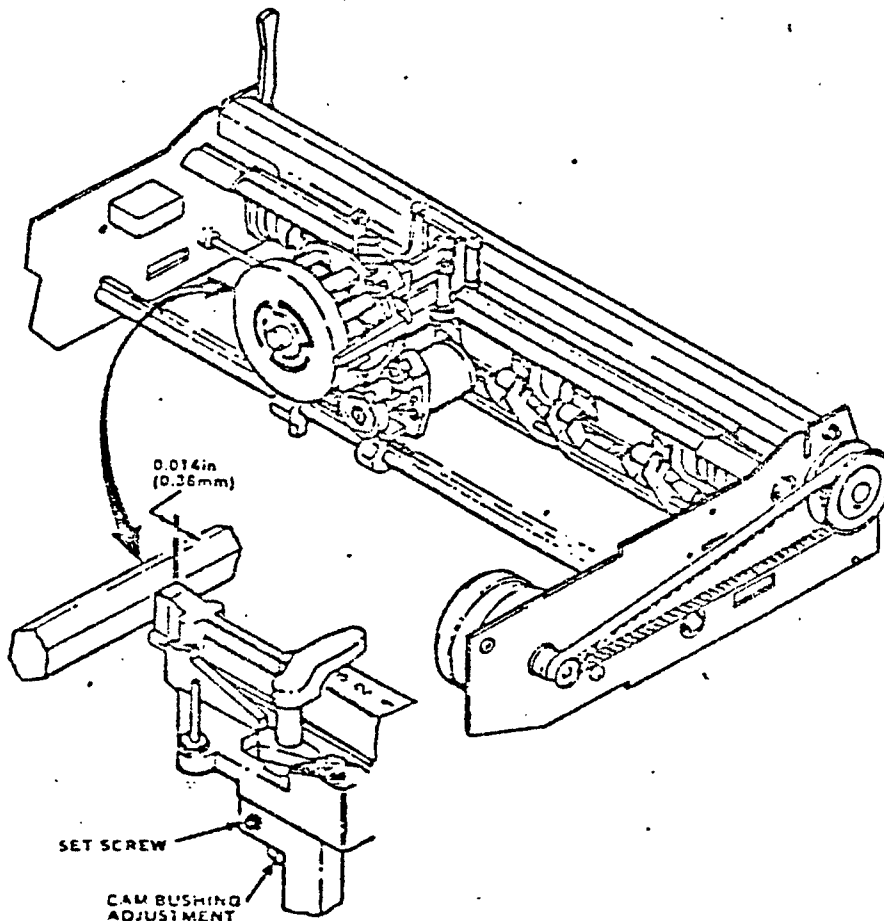

Figure 4-1. HEAD GAP ADJUSTMENT
3. Refer to Figure 4-1. Place the print head release lever in position 3 and insert a .014 inch feeler gage between the nose of the print head and the platen.